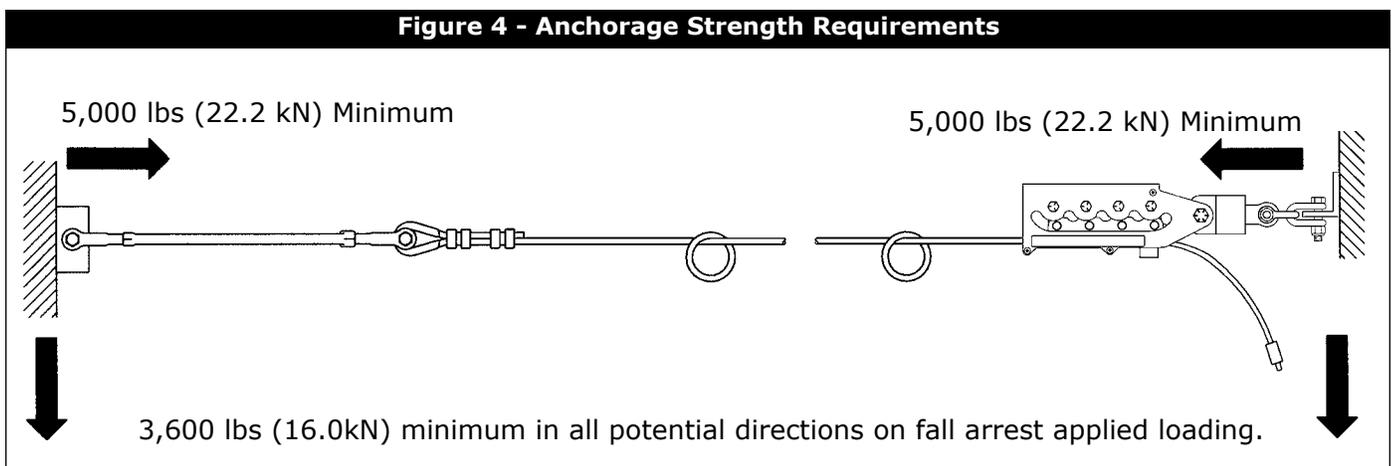

Figure 5 - Clearance Evaluation Using 3M Fall Protection Energy Absorbing Lanyards
Step 1. Determine the locations of the end anchorages and evaluate their strengths in accordance with section 2.4. Determine the span length and evaluate the required clearance using Figure 5 or 6. Figures 5 and 6 apply to one or two users connected to the system.